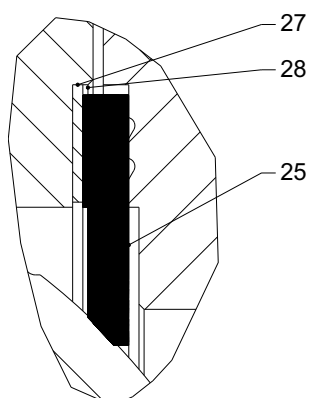
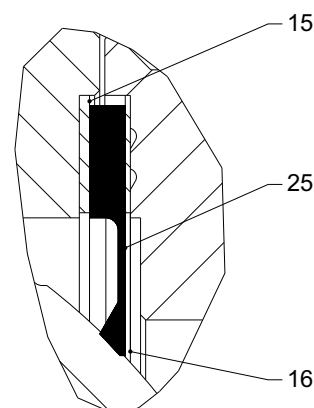

Fig. 7: Seat ring TC (PTFE)
Fig. 8: Seat ring KC (Stellite)
- The sealing element (25 and possibly also 15/16) between the counter flange and the body (Fig. 7 + Fig. 8) is pressed tightly via the bolts of the flanges. This must be taken into account when determining the bolt tightening torques required for operational tightness.